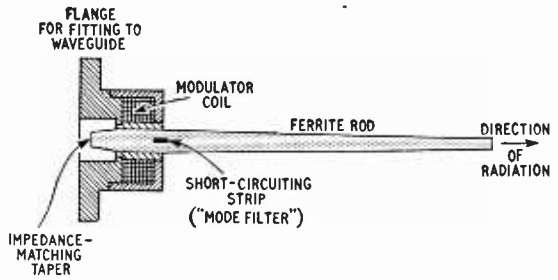

Fig. 7. Section of X-band ferrite-rod transmitting aerial.
0.6 cm thick. To prevent the radiation of side lobes, the beam is tapered to a small diameter at the far end. Waves are launched into the thick end from a waveguide, as shown in Fig. 7. Narrower pencil beams, or fan-shaped radiation, can be produced by parallel arrays of these radiators, as in conventional beam aerial practice.
Even if that were all, it would be a very neat and convenient device. But the low-frequency magnetic property of the rods is utilized too, enabling the beam to be switched on or off, or modulated, or its beam scanned or the polarization of the waves rotated simply and economically without moving parts. This is thanks to the Faraday effect, which is the name given to rotation of the plane of polarization of waves by a magnetic field. Such a field is produced by passing current through the coil shown in section in Fig. 7. Only about 10 mA is needed to rotate the polarization through 90°. By short-circuiting the waveguide from side to side by a metal strip through the ferrite rod, the waves are "turned off" when the plane of polarization is changed from perpendicular to parallel to this strip. This is one of many neat control systems that have been devised. "Elegant" is the word that comes to mind for summing up this composite application of the properties of ferrites.